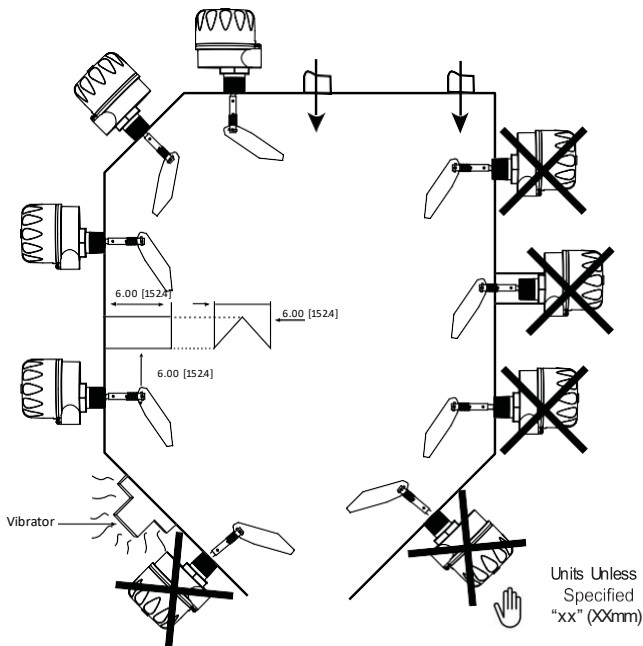

Figure 1: Protective Mounting
Protective Mounting (Figure 1):
4. Shaft and paddle should be shielded in low level applications as shown in Figure 1.